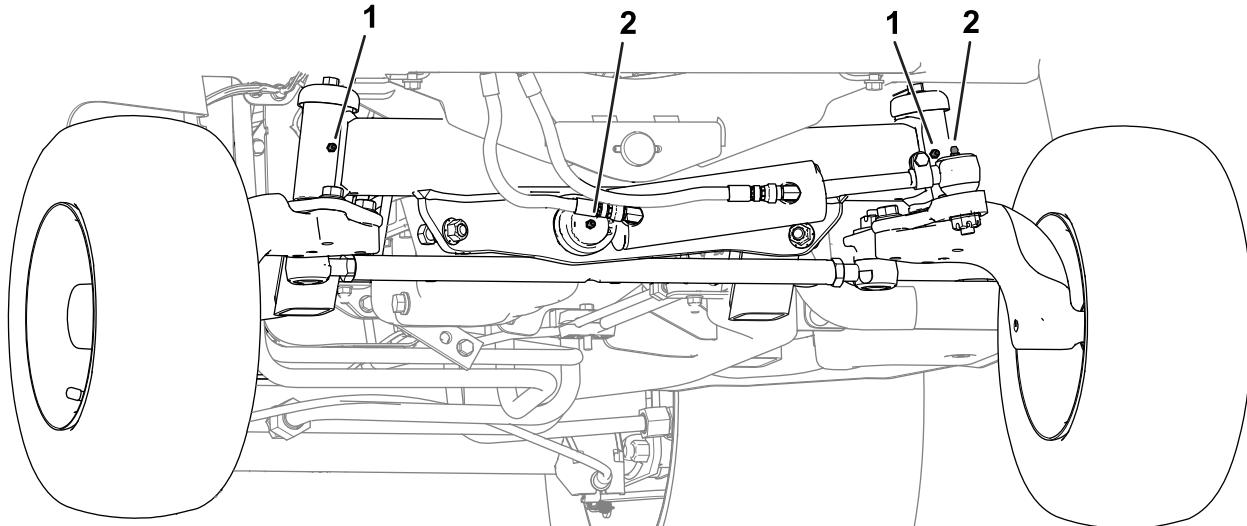

Figure 47
- **Rear of the machine (Figure 47):**
- Hydraulic-cylinder ball joint (2)
- Axle spindle hubs (2)